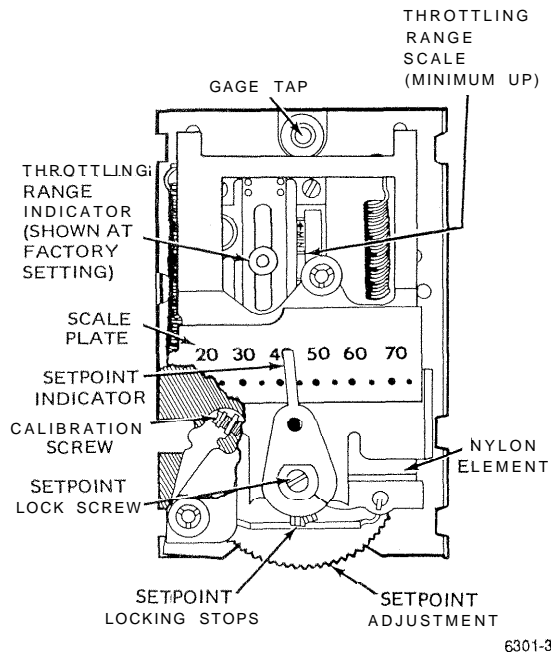

Fig. 18. Humidistat with the cover off showing the adjustment points.
- ❶ Slide the throttling range indicator (Fig. 18) to the desired indication on the scale.
- ❷ Move the throttling range indicator up toward minimum on slow response or move it down if hunting or cycling of the controlled device occurs.
- ❸ Recalibrate the Humidistat each time the throttling range is changed.
- ❸ Measure the rh with a Digital Relative Humidity Indicator Pen CCT915 or other accurate rh measuring device.
- ❹ Use the setpoint adjustment to set the setpoint indicator at the actual relative humidity.
- ❺ Adjust the calibration screw (Fig. 18) until the Pressure Gage reads 0 psi (0 kPa).
- ❻ Readjust the calibration screw slowly until the Pressure Gage reads 8 ± 1 psi (55 ± 7 kPa).
- ❼ Allow sufficient time for a complete response and stabilization, then recheck pressure. The Humidistat is now calibrated.
- ❽ Remove the Pressure Gage and Gage Adapter.